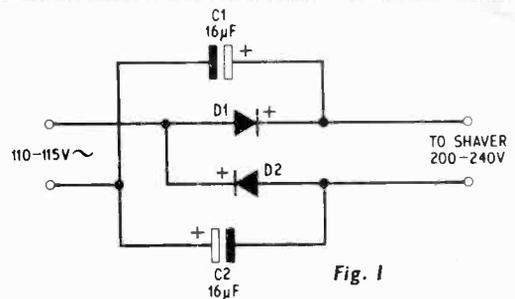

Fig. 1
**T**HE voltage doubler described here was built to enable a 200–240 volt a.c./d.c. electric shaver to be used on 100–115 volt a.c. mains when travelling abroad. The output is 200–240 volt d.c. depending on the input voltage. The razor was found on test to take 60 to 70mA at 240 volts, the output of the voltage doubler being ample for this as the rectifiers are rated at 500mA at 250 volts. The circuit is shown in Fig. 1.